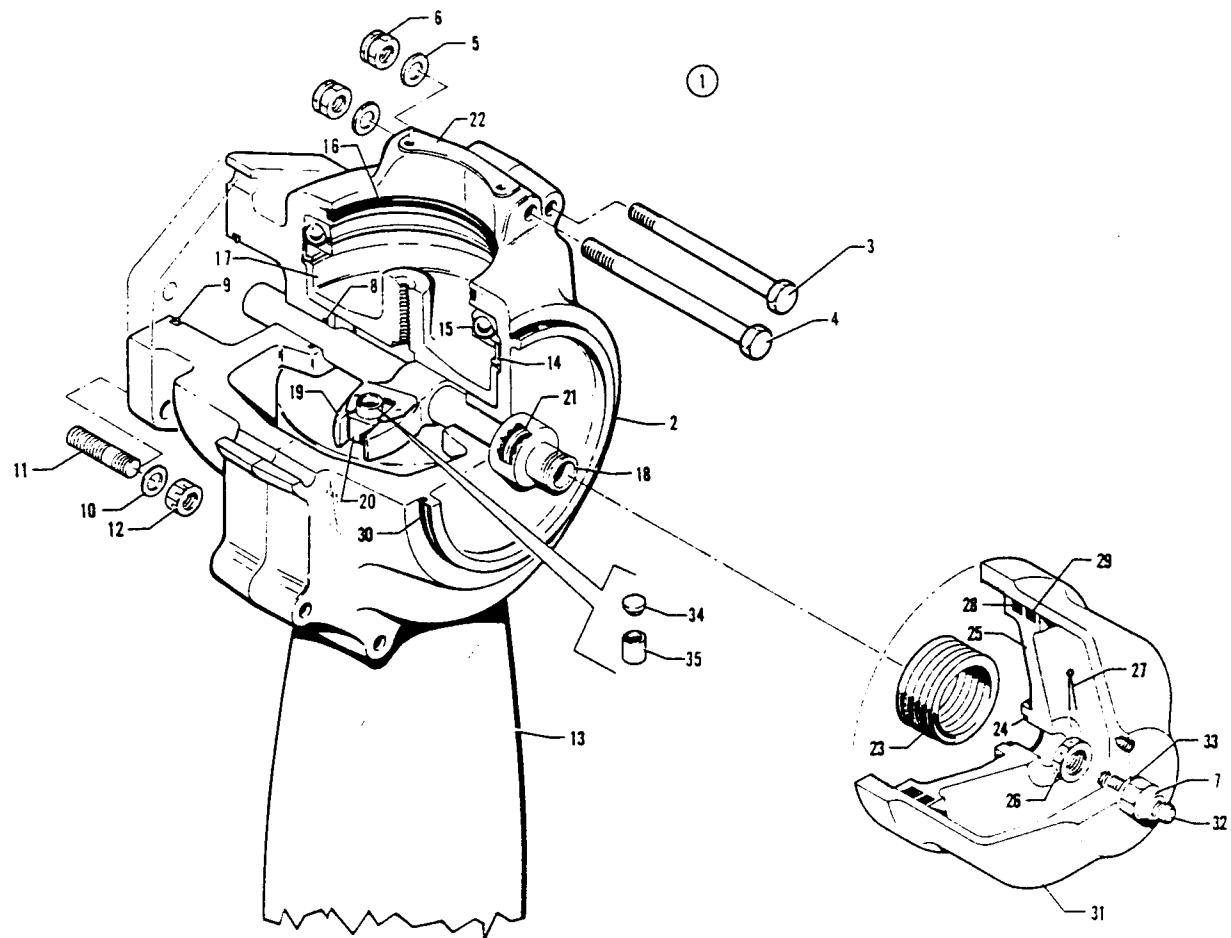

Figure 67B. Propeller Assembly (Hartzell)
A.- If existing spinner is constructed of fiberglass, order Spinner Replacement Kit 760 452. B- See Figure 67B for component parts. C- Used if Lycoming serial number on engine does not include Suffix A. D- Used if Lycoming serial number on engine includes Suffix A. E - Reference latest revision to Service Letter 715 affecting all Piper airplanes with Hartzell propeller governors installed. A modified flyweight assembly is recommended to improve RPM control. W- These parts must be ordered from Service Spares Department, Piper Aircraft, Vero Beach, Florida.